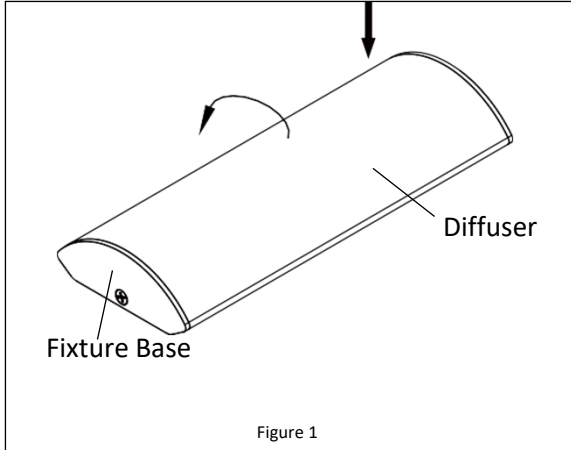

Figure 1
2. Remove diffuser by rolling it off of the edge lip all the way down 1 side. **See Figure 1.**